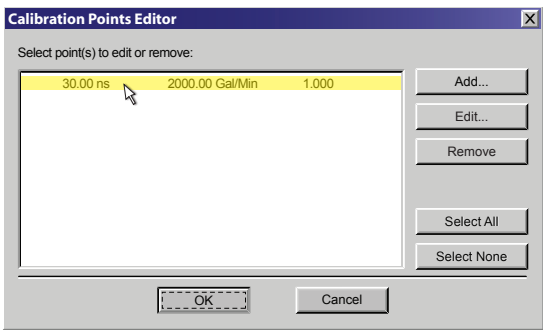

Figure 62: Calibration page 3 of 3
5. If a calibration point is displayed in *Calibration Points Editor*, record the information, then highlight and click **Remove**. See Figure 62.